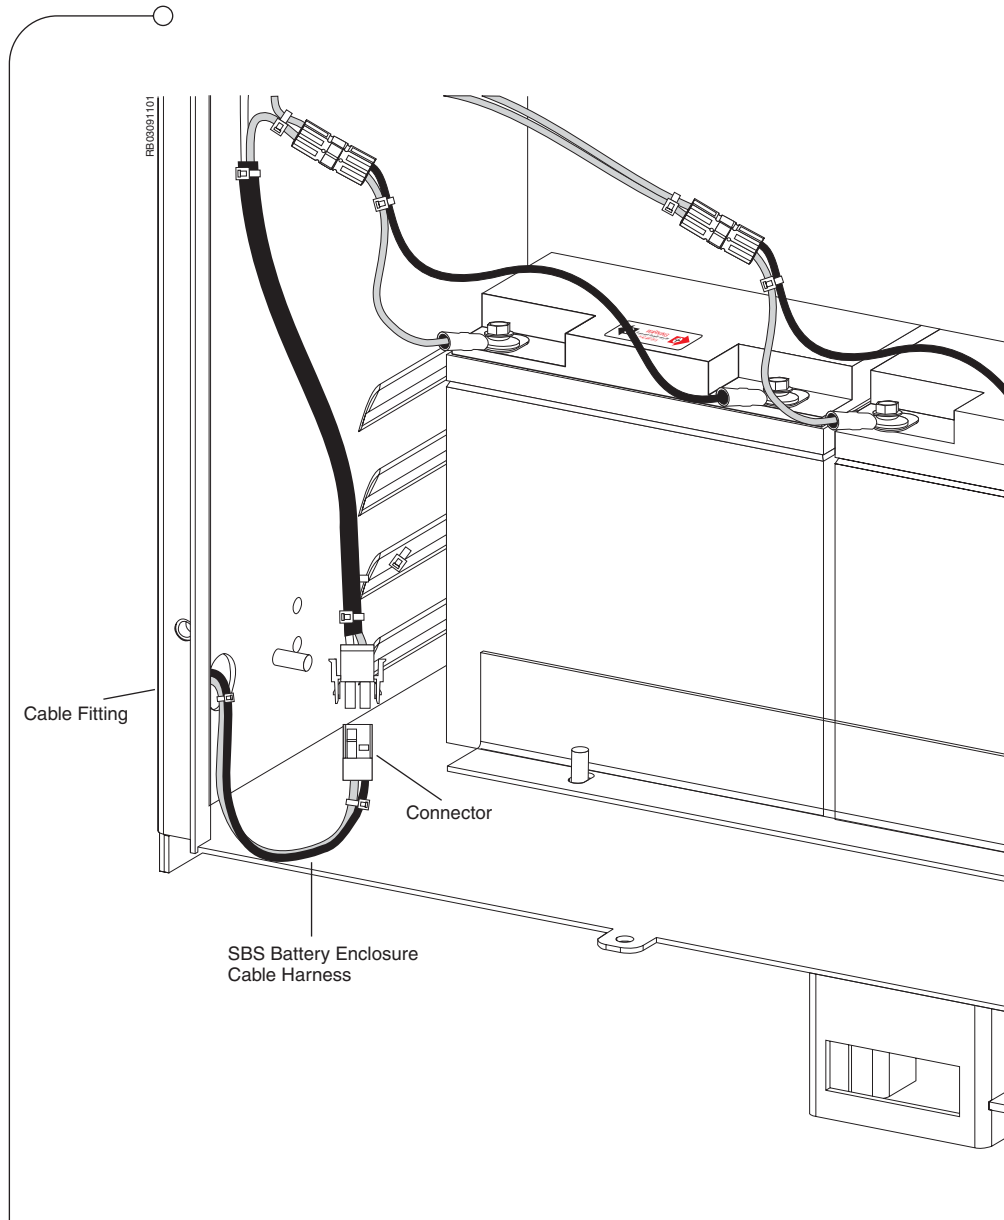

Figure 3.23 SBS Battery Enclosure Cable Harness Connection
2. Pass the SBS Battery Enclosure Cable Harness through the fitting and connect to the connector of the Battery Cable, as shown in Figure 3.23 on page 75.